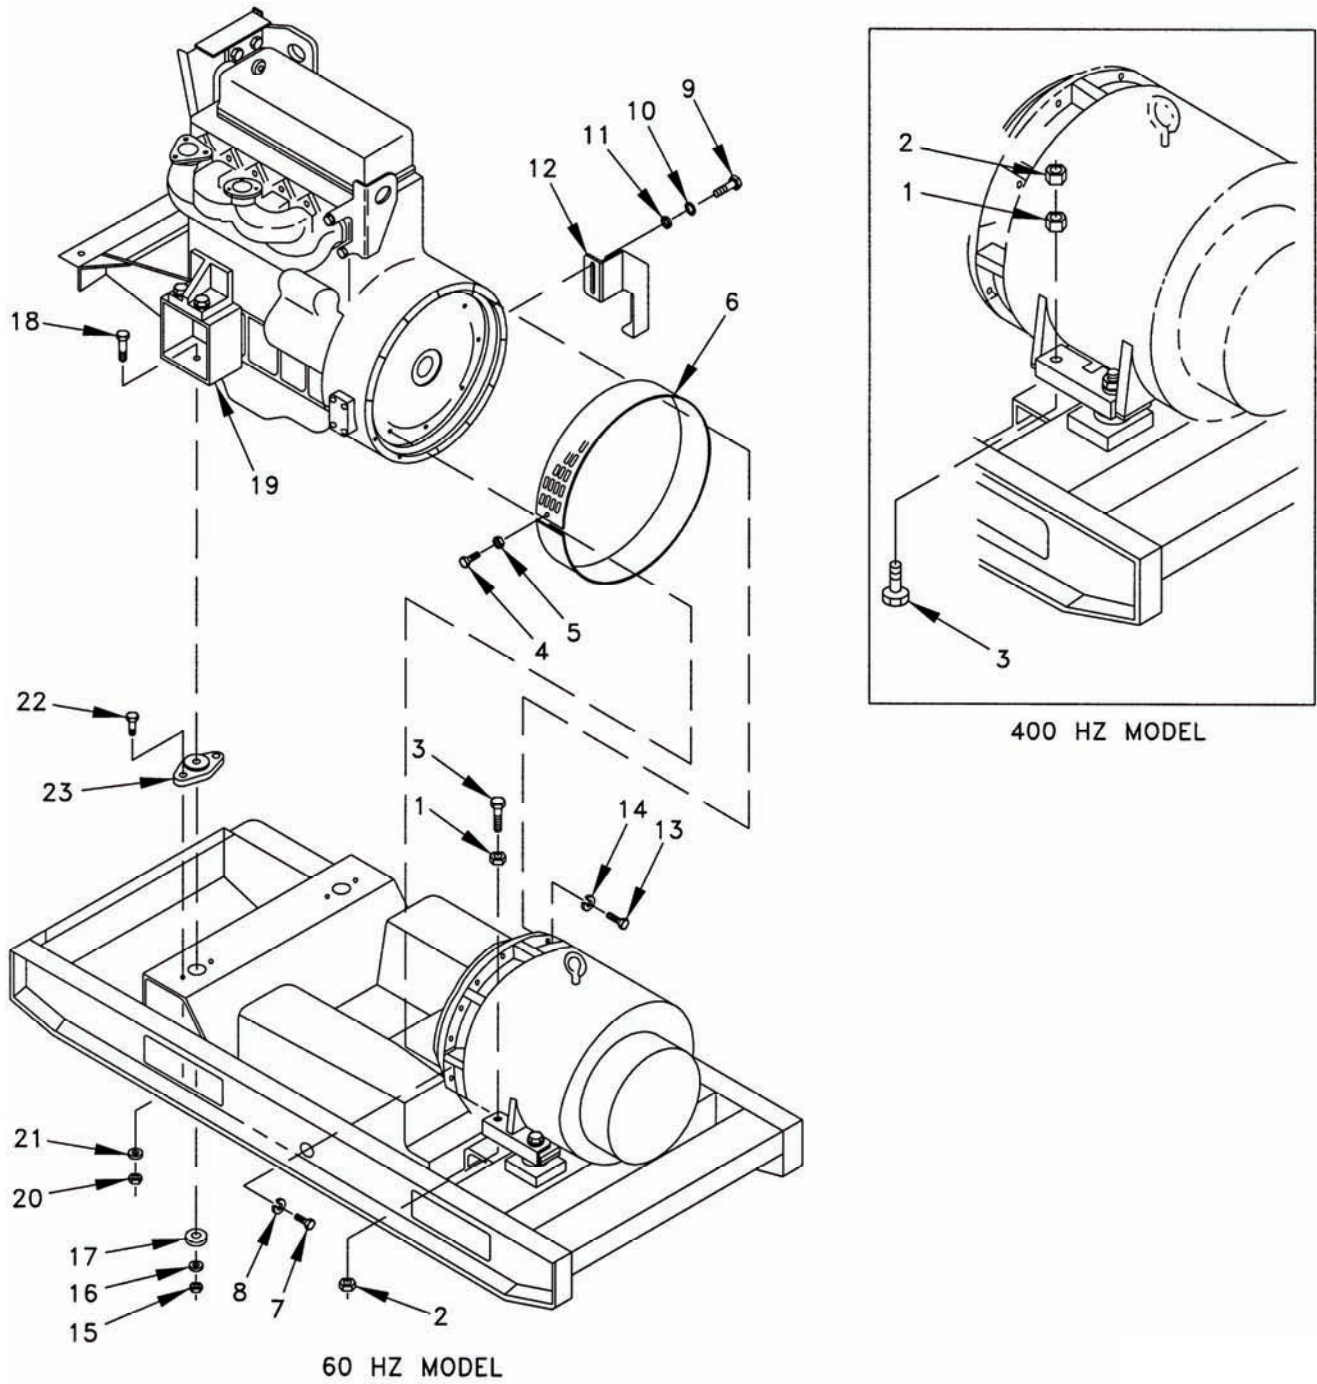

Figure 5-20. Engine.
- a. Loosen nuts (1 and 2, Figure 5-20), turn bolts (3) to contact skid base, and tighten nuts (1 and 2).
- b. Remove screw (4), washer (5), and screen/cover (6) from generator case.
- c. Remove eight bolts (7) and lock washers (8) (inner) securing generator drive disc to engine flywheel. Discard lock washers (8).
- d. Remove two bolts (9), lock washers (10), washers (11), and right rear engine support (12). Discard lock washers (10).